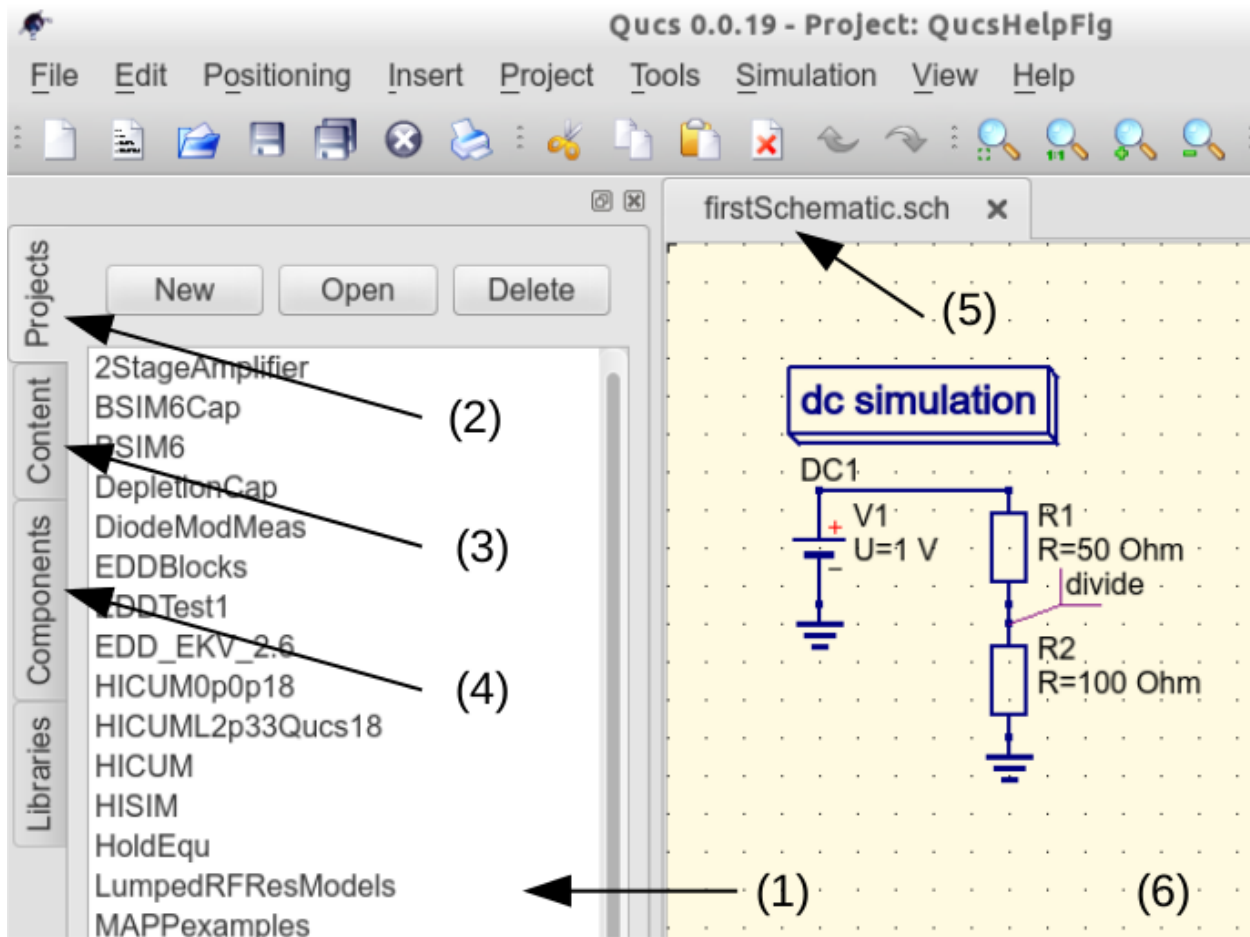

Figure 3 - Qucs main window with working areas labelled
On launching Qucs a working area labelled (6) appears at the centre of the GUI. This window is used for displaying schematics, numerical and algebraic model and circuit design data, numerical output data, and signal waveforms and numerical data visualised as graphs, see Figure 3. Clicking, with the left hand mouse button on any of the entries in the tabular bar labelled (5) allows users to quickly switch between the currently open documents. On the left hand side of the Qucs main window is a third area labelled (1) whose content depends on the status of **Projects** (2), **Content** (3), **Components** (4) or **Libraries**. After running Qucs, the **Projects** tab is activated. However note, when Qucs is launched for the first time the **Projects** list is empty.
To enter a new project left click on the **New** button located on the right above window (1). This action causes a Qucs GUI dialogue to open. Enter the name of a Qucs project in the box provided, for example enter *QucsHelpFig* and click on the **OK** button. Qucs then creates a project directory in the `~/ .qucs` directory. In the example shown in Figure 3 this is called **QucsHelpFig\_prj**. Every file belonging to this new project is saved within the **QucsHelpFig\_prj** directory. On creation a new project is immediately opened and its name displayed on the Qucs window title bar. The left tabular bar is then switched to **Content**, and the content of the currently opened project displayed. To save an open document click on the **save** button (or use the main menu: **File** → **Save**). This step initiates a sequence which saves the document displayed in area (6). To complete the save sequence the program will request the name of your new document. Enter *firstSchematic*, or some other suitable name, and click on the **OK** button to complete the save sequence.
As a first example to help you get started with Qucs enter and run the simple DC circuit shown in Figure 3. The circuit illustrated is a two resistor voltage divider network connected to a fixed value DC voltage source. Start by clicking on the **Components** tab. This action causes a combo box to be displayed from which a component group may be chosen and the required components selected. Choose components group **lumped components** and click on the first symbol: **Resistor**. Next move the mouse cursor into area (6). Pressing the right mouse button rotates the **Resistor** symbol. Similarly, pressing the left mouse button places the component onto the schematic at the place the mouse cursor is pointing at. Repeat this process for all components shown in Figure 3. The independent DC voltage source is located in the **sources** group. The ground symbol can be found in the **lumped components** group or selected from the Qucs toolbar. The icon requesting DC simulation is listed in the **simulations** group. To edit the parameters of the second resistor, double-click on it. A dialogue opens which allows the resistor value to be changed; enter *100 Ohm* in the edit field on the right hand side and click enter.
To connect the circuit components shown in Figure 3, click on the wire toolbar button (or use the main menu: **Insert** → **Wire**). Move the cursor onto an open component port (indicated by a small red circle at the end of a blue wire). Clicking on it starts the wire drawing sequence. Now move the drawing cursor to the end point of a wire (normally this is a second red circle attached to a placed component) and click again. Two components are now connected. Repeat the drawing sequence as many times as required to wire up the example circuit. If you want to change the corner direction of a wire, click on the right mouse button before moving to an end point. You can also end a wire without clicking on an open port or on a wire; just double-click the left mouse button.
As a final step before DC simulation label the node, or nodes, whose DC voltage is required, for example the wire connecting resistors **R1** and **R2**. Click on the label toolbar button (or use the menu: **Insert** → **Wire Label**). Now click on the chosen wire. A dialogue opens allowing a node name to be entered. Type *divide* and click the **OK** button. If you have drawn the test schematic correctly the entered schematic should look the same, or be similar to, the one shown in Figure 3.